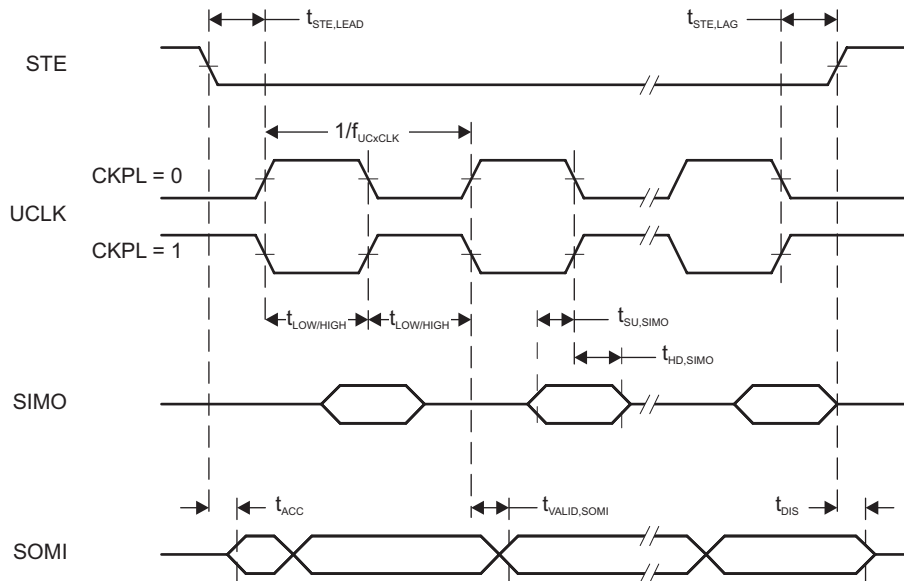
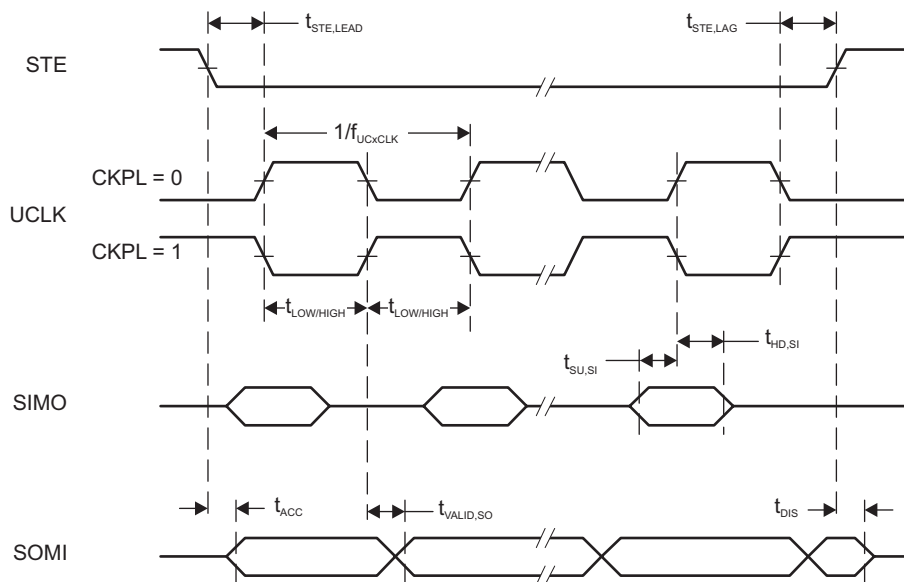

Figure 5-25. SPI Slave Mode, CKPH = 0
Figure 5-26. SPI Slave Mode, CKPH = 1
over recommended ranges of supply voltage and operating free-air temperature (unless otherwise noted)⁽¹⁾ (see Figure 5-25 and Figure 5-26)
- (1) $f_{UCXCLK} = 1/2t_{LO/HI}$ with $t_{LO/HI} \geq \max(t_{VALID,MO(Master)} + t_{SU,SI(USCI)}, t_{SU,MI(Master)} + t_{VALID,SO(USCI)})$. For the master parameters $t_{SU,MI(Master)}$ and $t_{VALID,MO(Master)}$, see the SPI parameters of the attached slave.
- (2) Specifies the time to drive the next valid data to the SOMI output after the output changing UCLK clock edge. See the timing diagrams in Figure 5-25 and Figure 5-26.
- (3) Specifies how long data on the SOMI output is valid after the output changing UCLK clock edge. See the timing diagrams in Figure 5-25 and Figure 5-26.